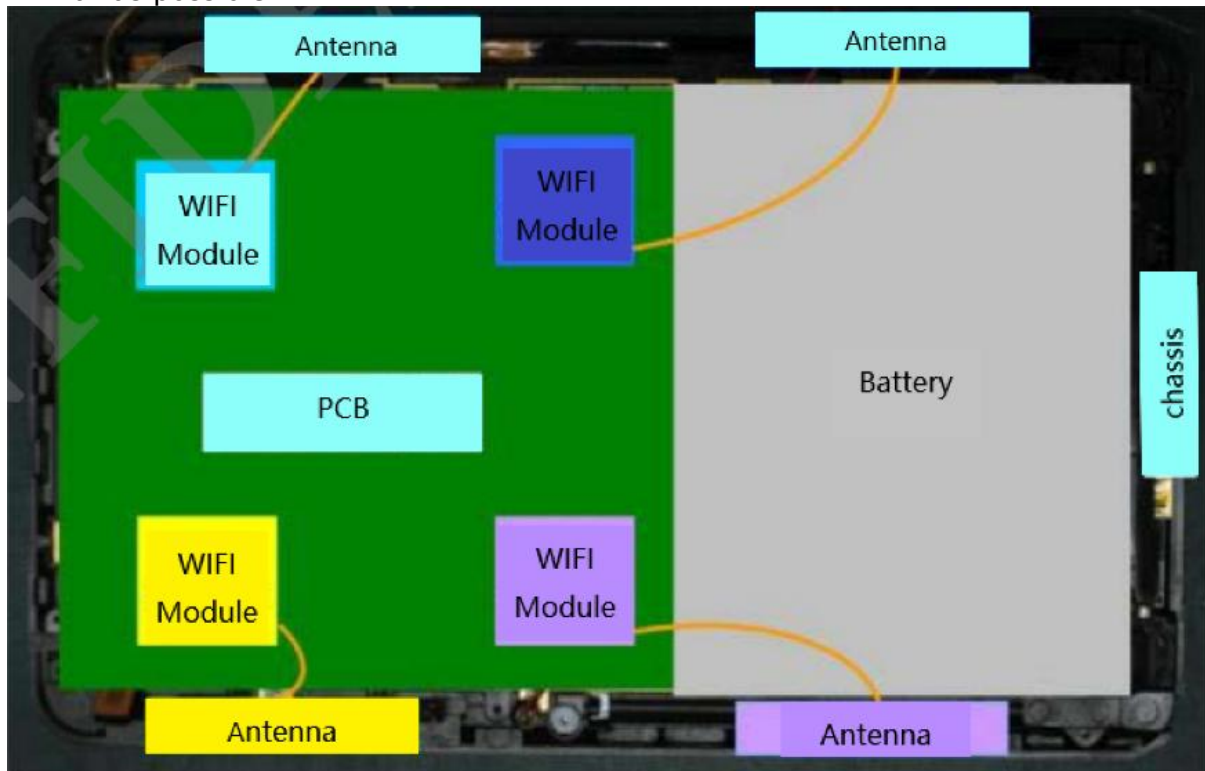

Figure 23-16
- The suggested placement of modules and antennas is shown as Figure 23-16, do not be placed in the place of hand and keep far away from the metal devices as far as possible.